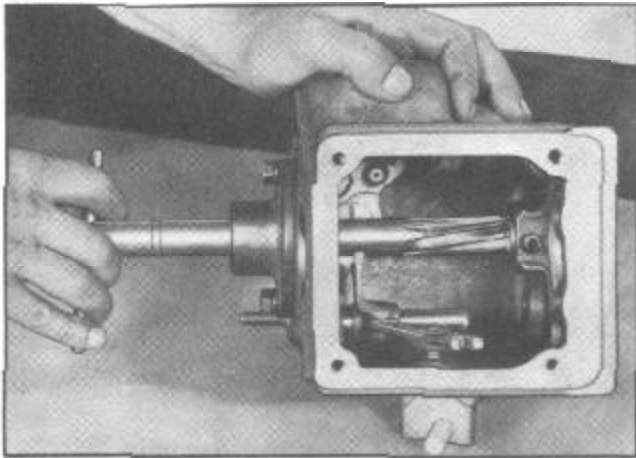

Figure 10--Reaming Countershaft Bushings Using J-466 Countershaft Bushing Line Reamer
2. The new countershaft bushings must be line reamed to exact size and alignment as shown in Figure 10 using countershaft bushing line reamer tool J-466.